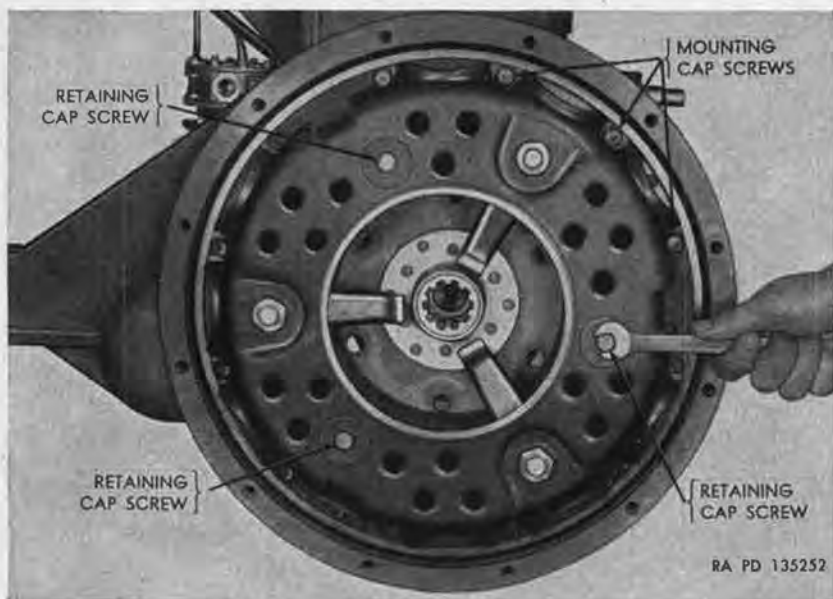

Figure 197. Installing clutch retaining cap screws.
- (1) Remove transmission (par. 205).
- (2) Install three retaining cap screws and washers (fig. 197) in holes pressure plate cover to prevent disassembly of clutch components after removal from flywheel. Turn cap screws down until screwheads and washers contact cover, but do not tighten.
- (3) Remove 12 cap screws and lockwashers (fig. 197) securing clutch pressure plate assembly to flywheel. Lift pressure plate assembly and disk assembly from flywheel.
- (4) Position pressure plate assembly against flywheel, making sure that the white paint spot on the pressure plate cover is as close as possible to the letter "L" stamped on the flywheel. Install loosely 12 mounting cap screws and lockwashers (fig. 197) in pressure plate cover and flywheel.
- (6) Remove the three clutch-retaining cap screws and washers (fig. 197).